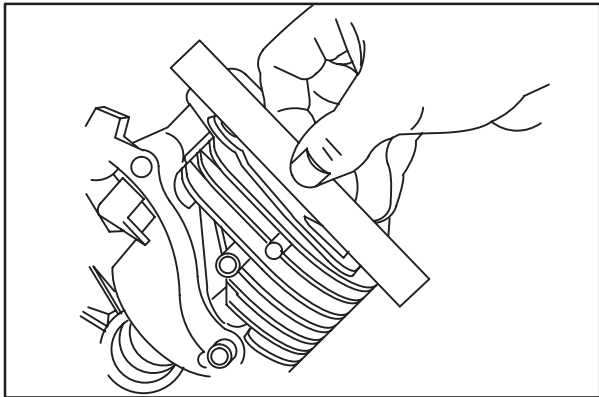

Fig. 1
2. Check cylinder head mounting surface for distortion with a straight edge, **Fig. 1**.